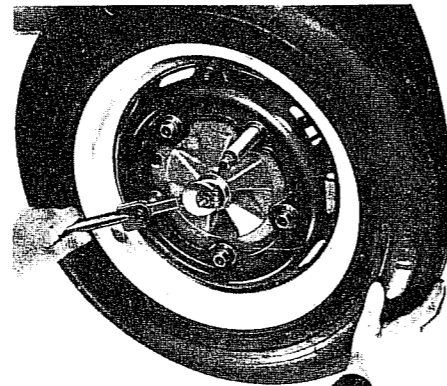

Fig. H.3. Adjusting the front wheel bearings.
4. Turning the wheel as you do so, tighten the clamp nut until you can feel the bearing tightening up. Note that the left hand nut has a left hand thread (Fig. H 3).